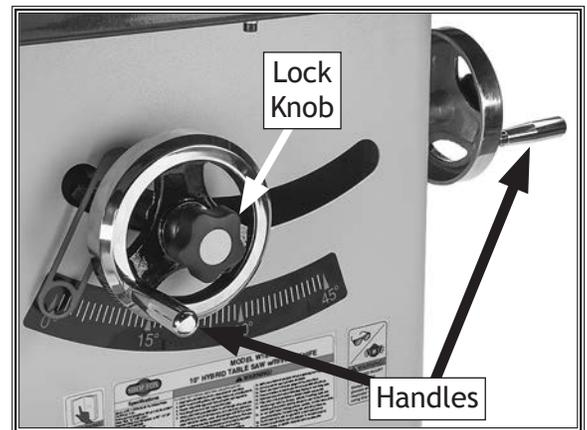

Figure 15. Handwheels installed.
3. Thread handwheel lock knob into center of each handwheel and tighten, then thread handle onto each handwheel and tighten (see **Figure 15**).